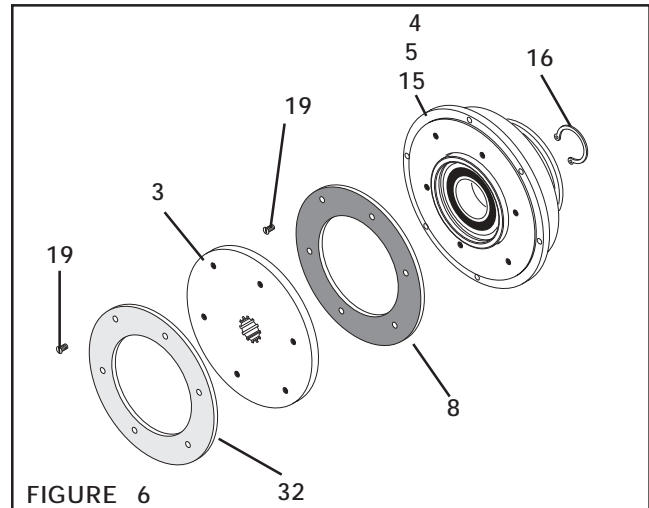

FIGURE 6
3. Remove the Retaining Ring (Item 16) (See Figure 6).
4. Press the Clutch Disc (Item 3) out of the Piston (Item 5), Bearing (Item 15), and Brake Housing (Item 4) (See Figure 6).
5. Remove the six old Brass Machine Screws (Item 19) and remove the Clutch Friction Facing (Item 32) from the Clutch Disc (Item 3) (See Figure 6).
6. Using six new Brass Machine Screws (Item 19) secure the new Clutch Friction Facing (Item 32) to the Clutch Disc (Item 3) (See Figure 6).
8. Remove the six old Brass Machine Screws (Item 19) and remove the Brake Friction Facing (Item 8) from the Brake Housing (Item 4) (See Figure 6).
9. Using six new Brass Machine Screws (Item 19), secure the new Brake Friction Facing (Item 8) to the Brake Housing (Item 4) (See Figure 6).